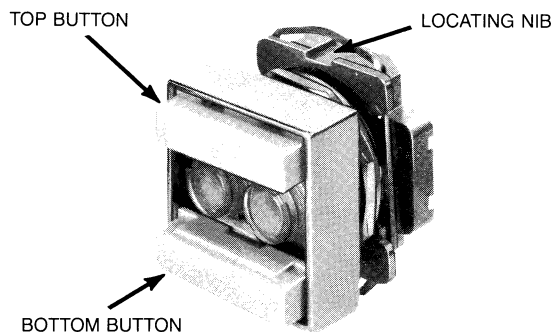

FIGURE 6
- g. Line up the button cover with the top button of the operator (with the nib of the operator UP) as shown in Figure 6 and push together until the cover is securely held by the operator.